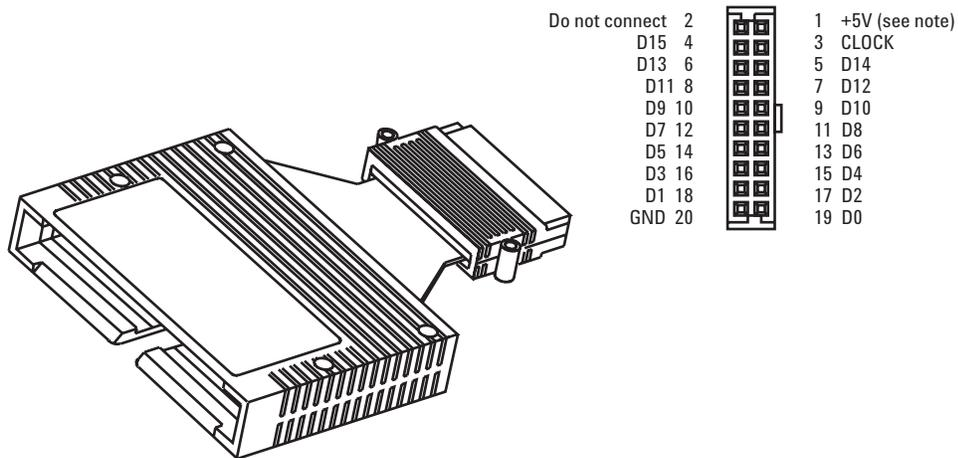

Figure 7.5. Pinout for 100 kΩ isolation adapter (Agilent part number 01650-63203)
**Note:** The Agilent 01650-63203 saves space by using a common ground (see Figure 7.5). This will impact signal fidelity, especially faster transition times (< 4 - 5 ns).